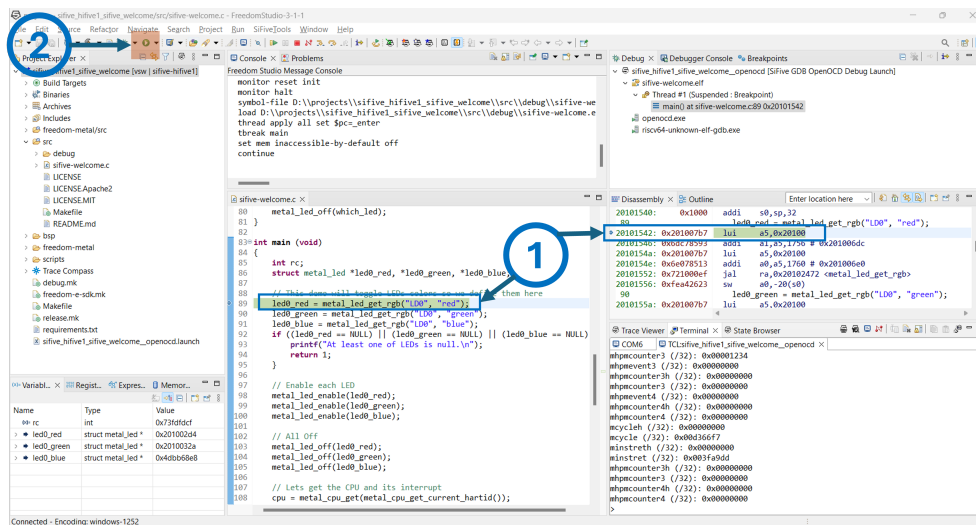

Figure 12: Steps to run sifive-welcome program and observe output
- You should see the debug window shown with 1 shown in Figure 12. To run the program, click on the "Run" button as represented by 2 in the same Figure 12